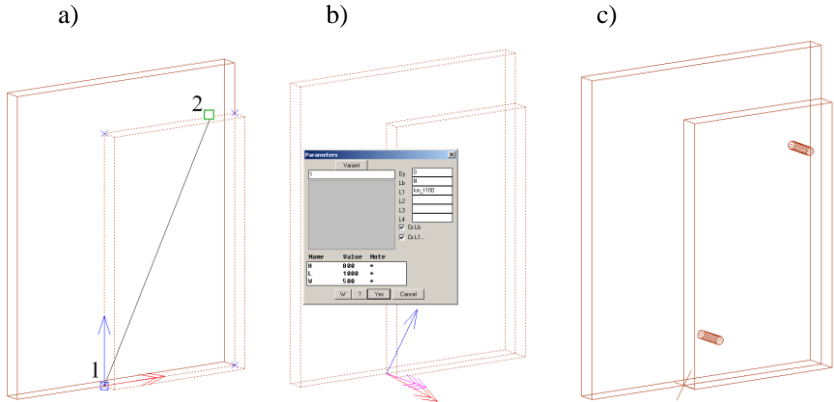

Fig. 3.81 Fixing Parts by specifying two points
Inserts Fasteners by point or two points, see fig. 3.81, page 130.
Base point: Specify a Part base point, see fig. 3.81 a) specifying “1”
*redefine base point #N / *X / -X / Y / -Y / Direction point:* Specify the second Part point, see fig. 3.81 a) specifying “2”.